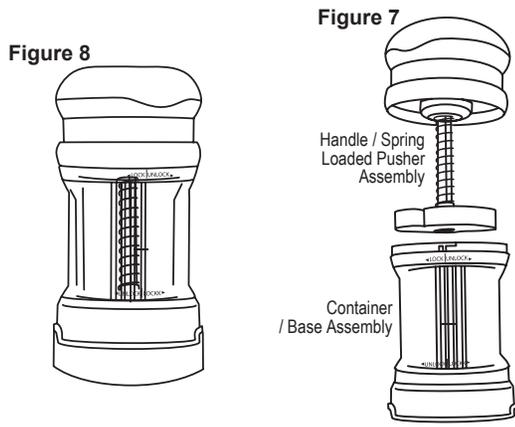

Figure 7
7. Line up the slot of the Spring Loaded Pusher with the dividers of the Container. Insert the Spring Loaded Pusher into the Container (Figure 7).